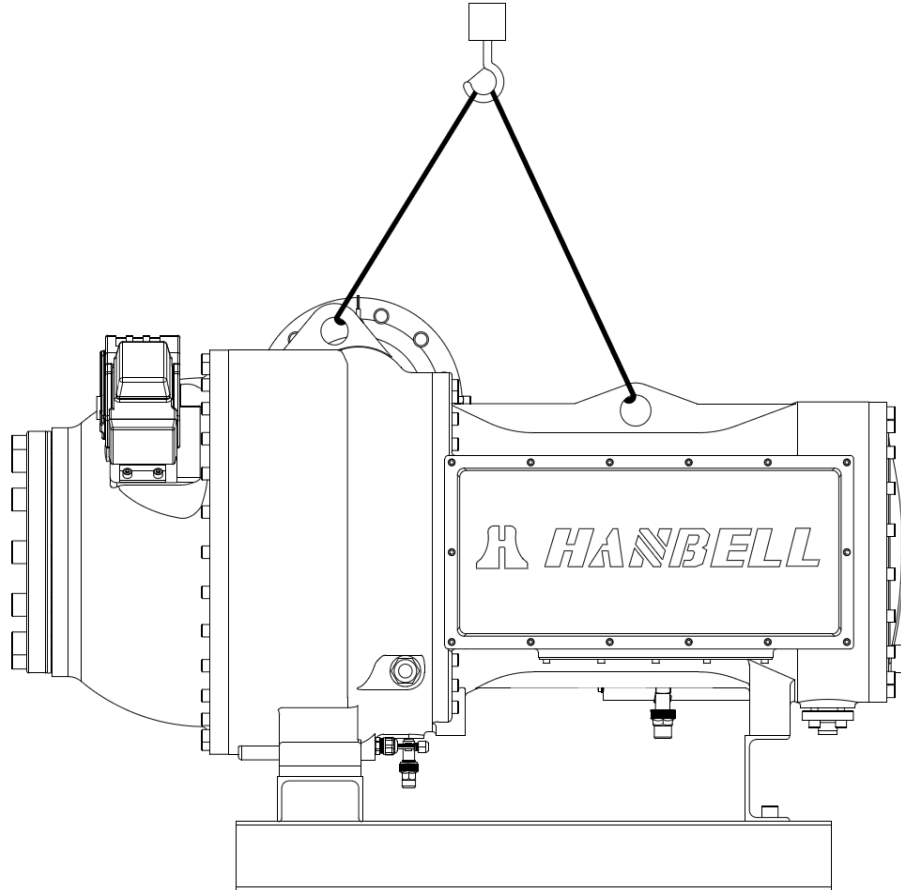

Figure 6.1 Lifting compressor
1. When lifting compressor, it is recommended to use steel chain or cable as figure 6.1, or other safety ropes with loading capacity 2500kg.